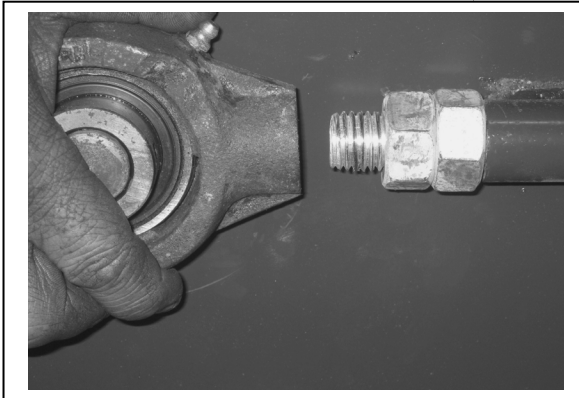

Fig 12
2. Refit the rail roller c/w bearings Fig 12, ensuring the nuts are securely fastened.
The reason for this occurring is due to the incorrect adjustment shown in Fig 12 and 21, and causes wear shown in Fig 17